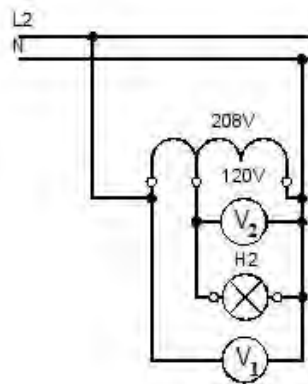

Figure 2:
- Wire up the circuit in accordance with the set-up and wiring diagram of Figure 2.